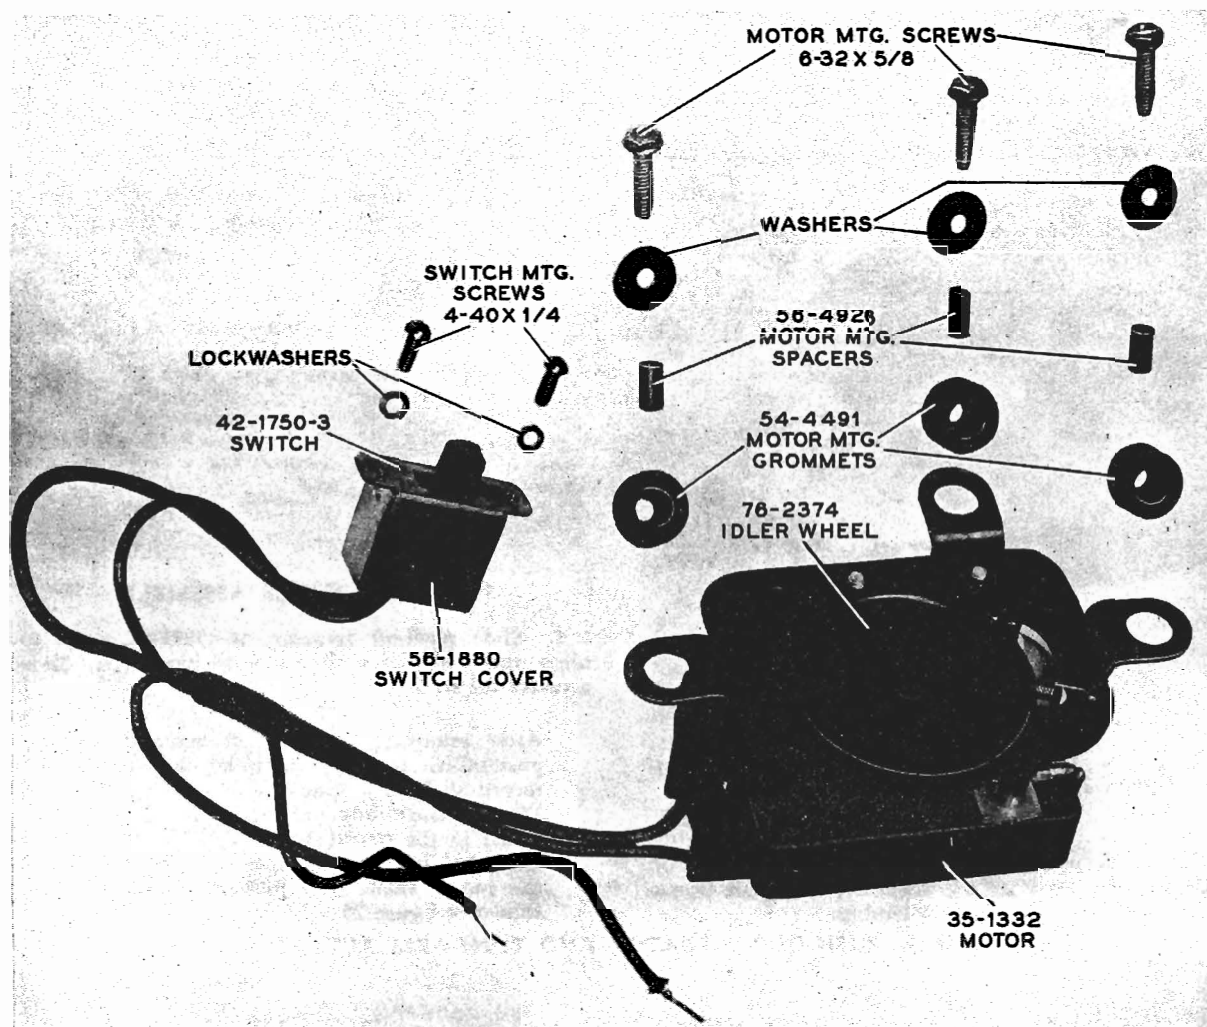

Figure 21—MOTOR, SWITCH, AND MOUNTING HARDWARE
- g. Remove the three screws, washers, and bushings from motor frame (figure 21), and lift motor out.